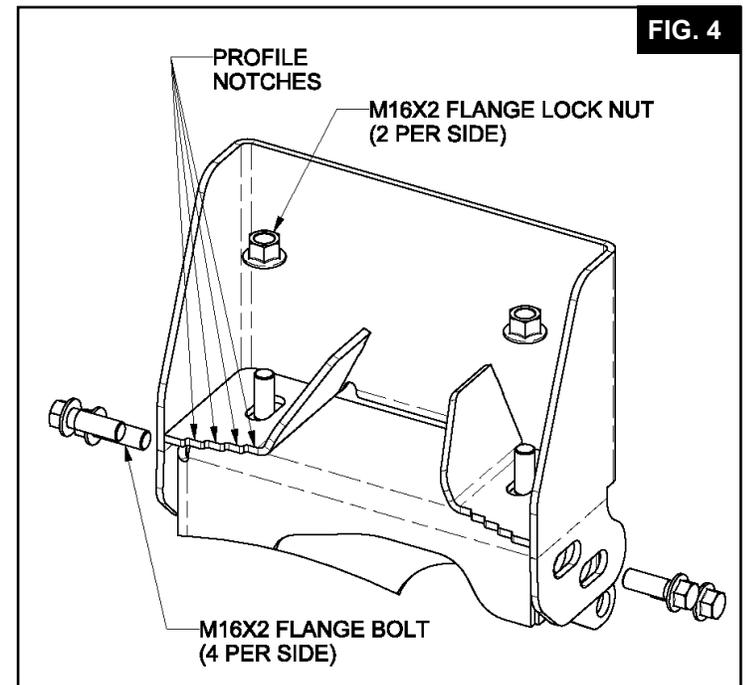

FIG. 4
9.6 Assemble the suspension to the front frame brackets using the provided mounting hardware (See Fig. 4 for fastener detail).
NOTE: Center the suspension on the truck using the profile notches on the hanger as a visual indicator (See Fig. 4).